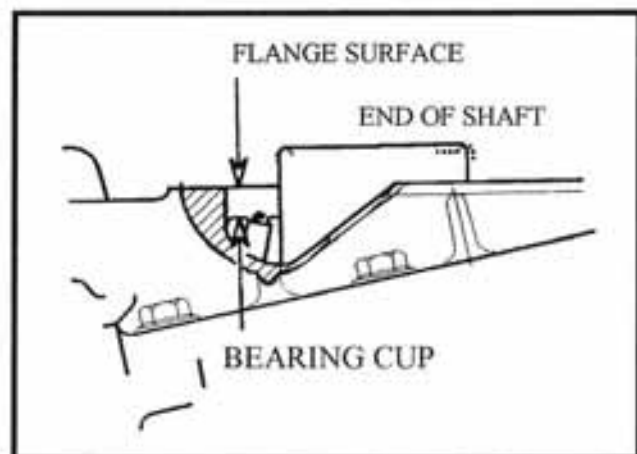
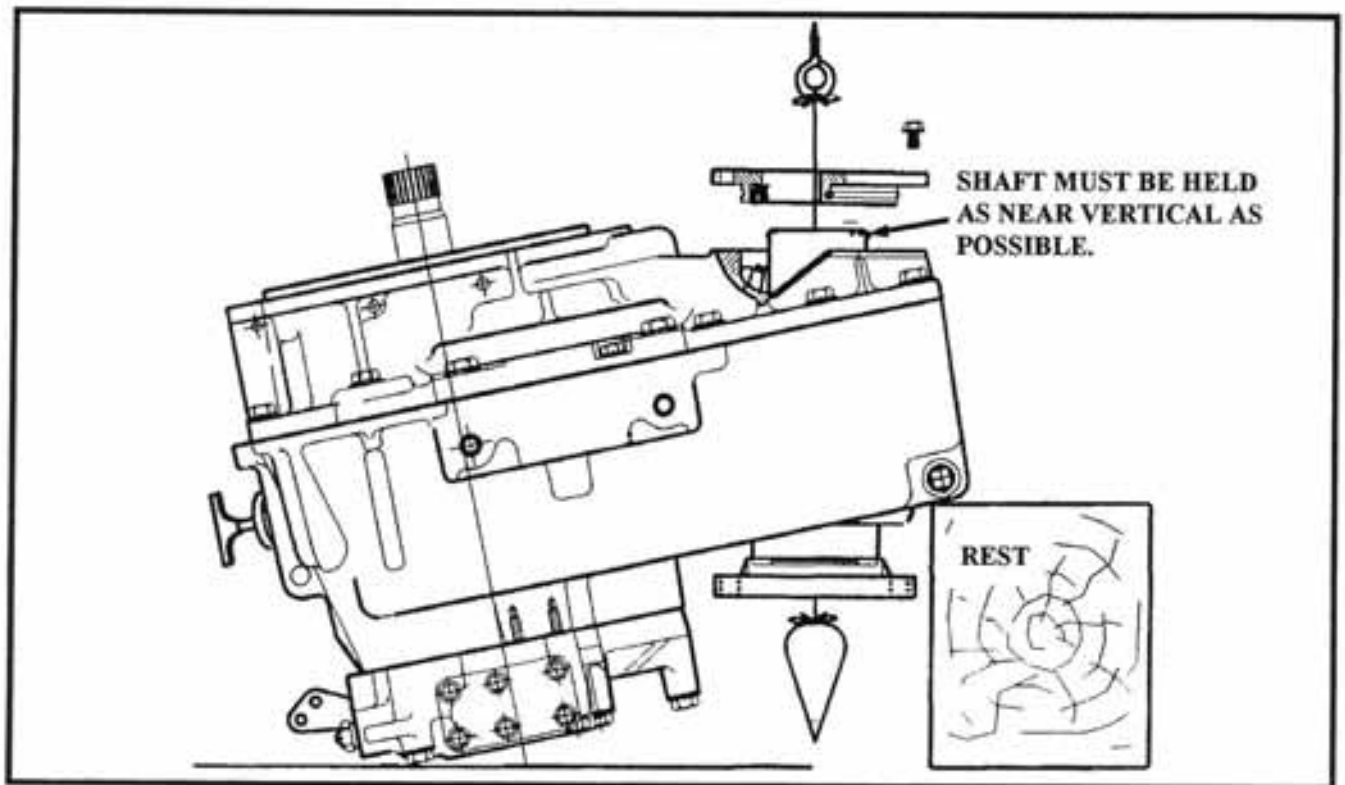

Figure 1-8. Measure to cup.
Figure 1-9. Case positioning for output bearing preload adjustment
1. Arrange the transmission assembly in a position that assures the output shaft is in a vertical position (figure 1-9).
2. Install seal (120) and O-ring (121) in bearing retainer (119).
3. Install the output bearing cup (151) insuring the bearing cup is properly seated.
4. Measure the distance from the bearing cup (151) to the cover surface and record (figure 1-8).